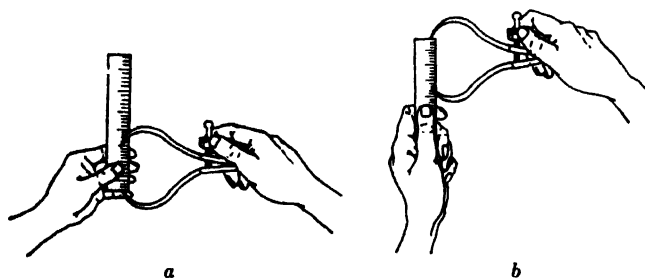

Fig. 3-16. (a) correct; (b) incorrect.
*Setting and Reading an Outside Caliper.* To set an outside caliper hold the rule in the left hand with the end against the little finger as shown (a, Fig. 3-16) and in such a position that the light falls